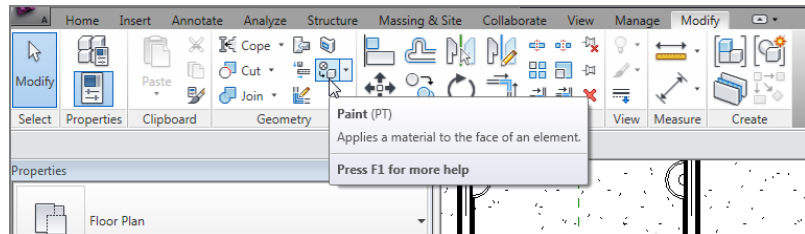

FIGURE 9.70: The Paint button
1. Click the Paint button on the Geometry panel of the Modify tab, as shown in Figure 9.70.